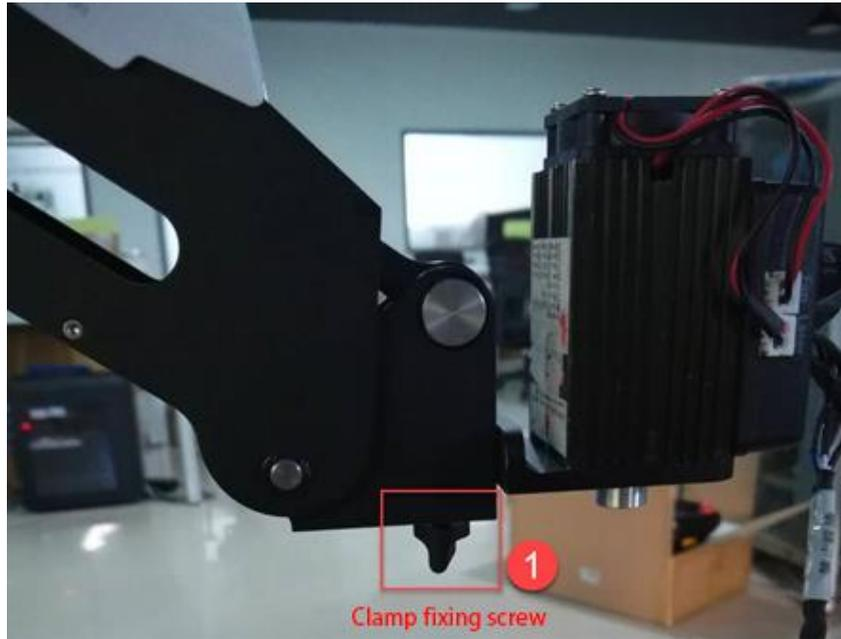

Figure 5.52 Fasten the laser with clamp fixing screw
Step 1 Fasten the laser kit to the end of Dobot Magician with a clamp fixing screw, as shown in Figure 5.52.